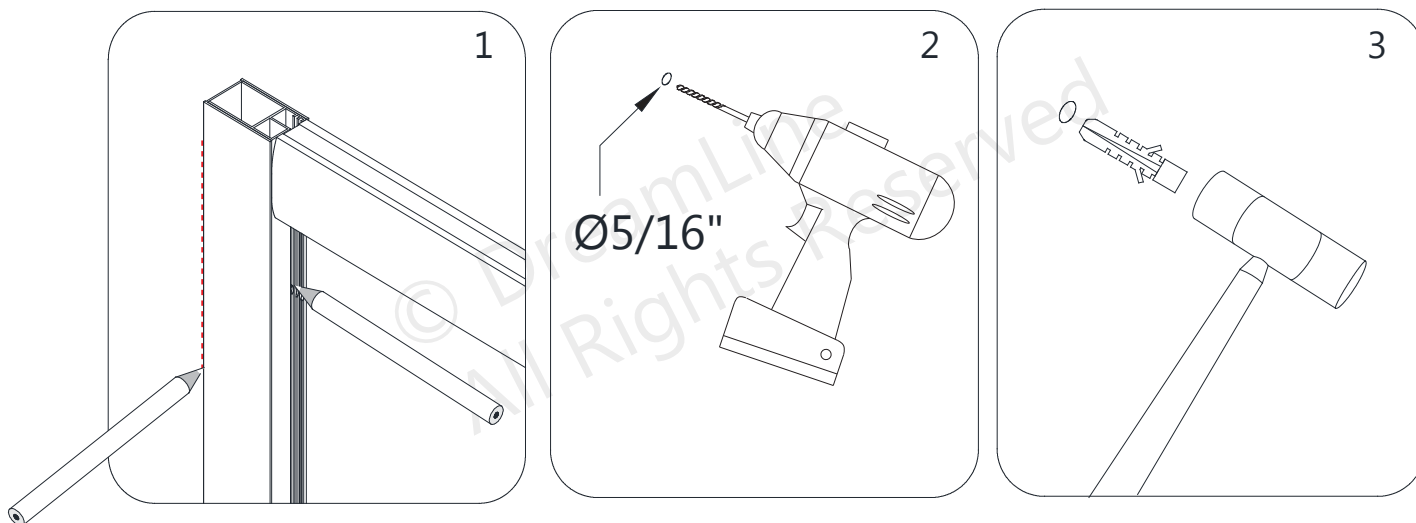

Fig 7
7. Use an assistant to hold the assembly in position and mark the holes for drilling on the wall through the holes in the **Glass Profiles (#01)** and the **Wall Profiles (#02)**. Set the assembled unit aside. Drill the holes using a **Ø5/16"** drill bit and insert the **Wall Anchors (#15)**. **(Fig 7)**